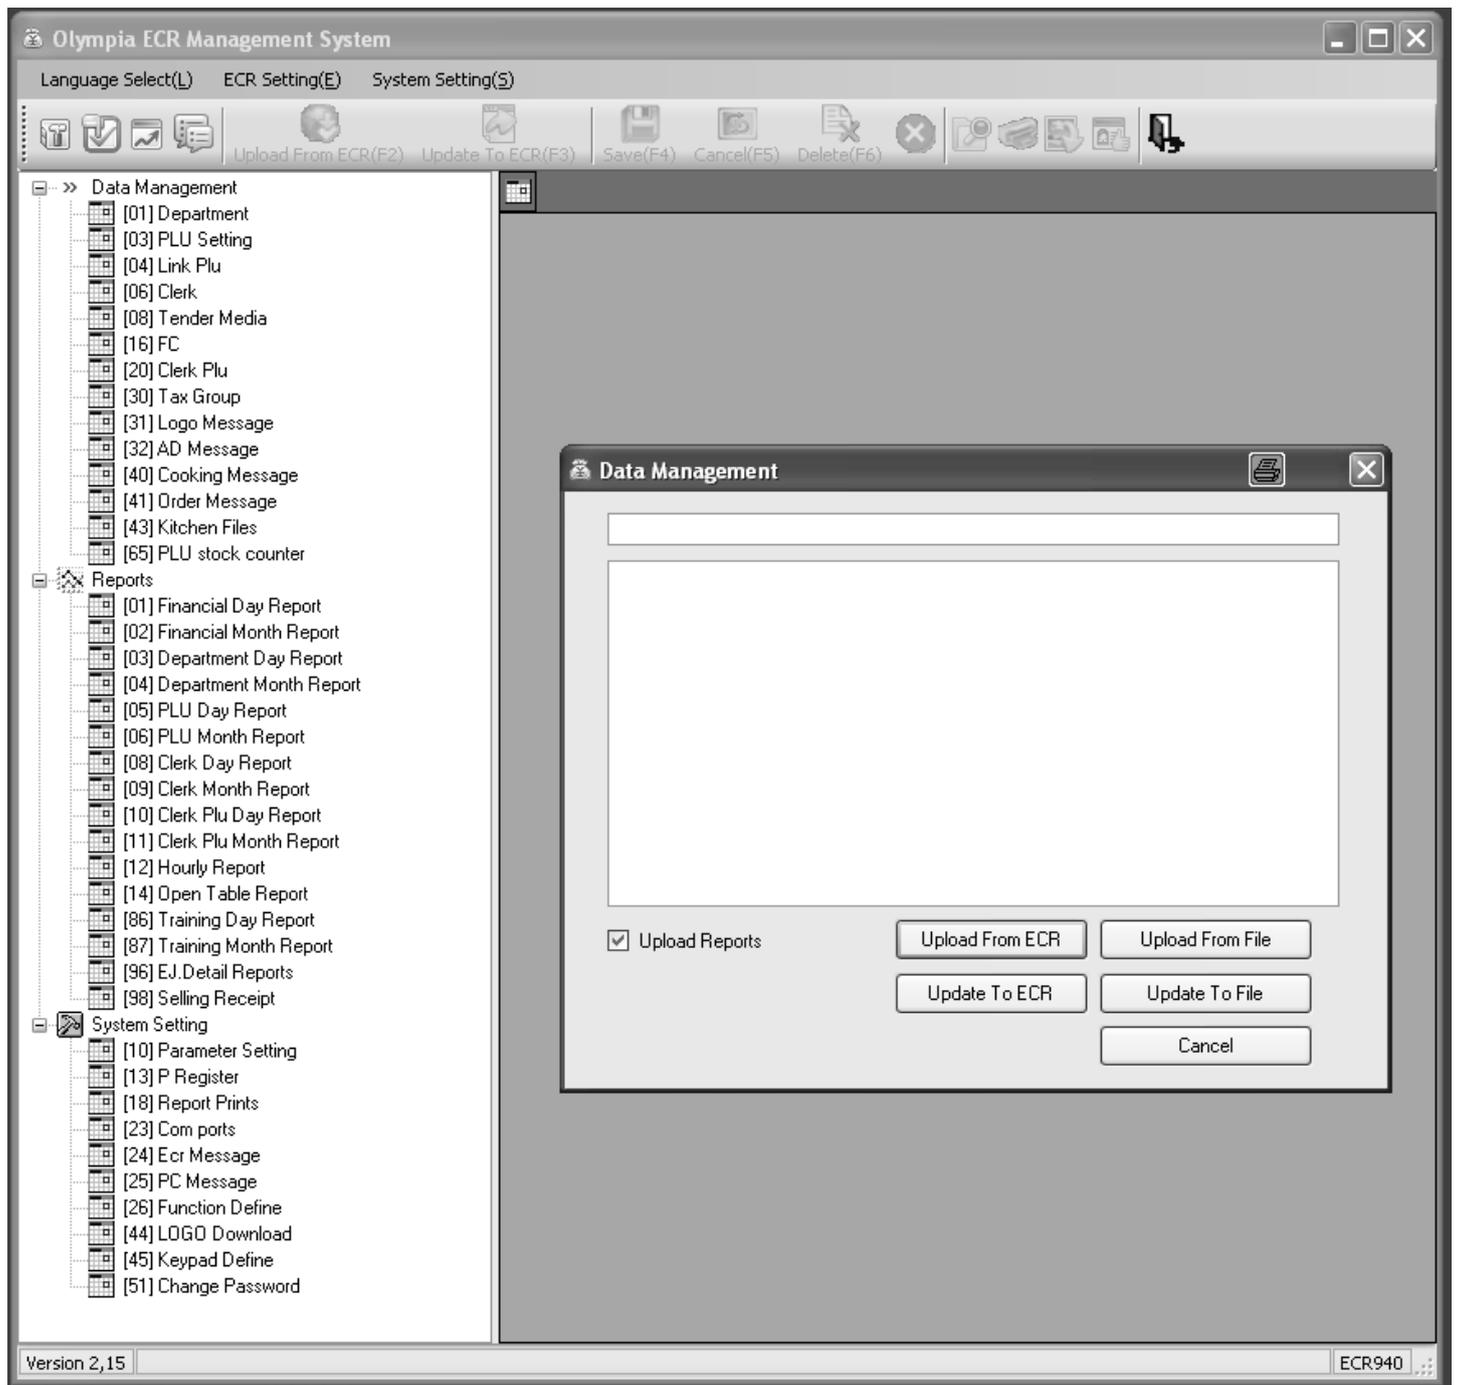

Fig. 12
3. Click on the **[Update To ECR]** button (see Fig. 12).
3. Click on the **[Upload From ECR]** button (see Fig. 12).